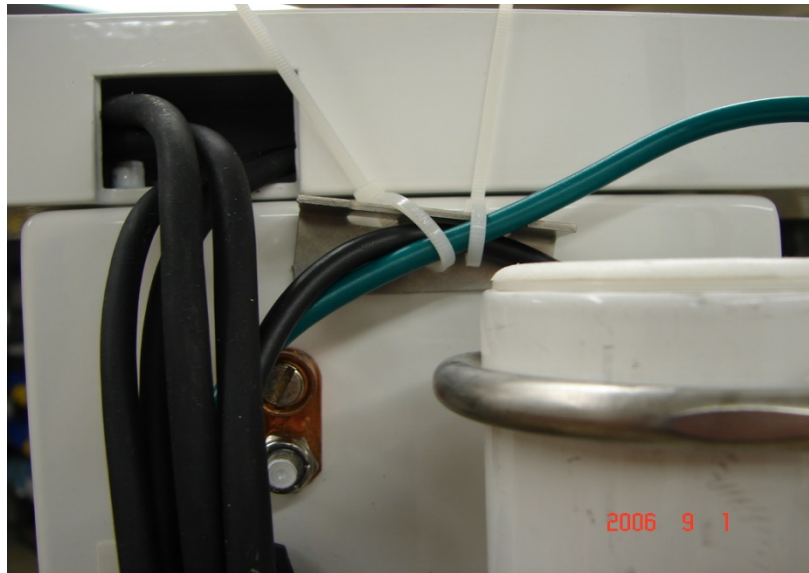

FIGURE 2-29. Loosely Wire Tie Antenna Cable
2. Remove the cap off of the BNC bulkhead connector located on the lower left hand corner of the enclosure back. Attach the antenna cable to the BNC connector. Gently bring the cable up alongside the pole and loosely wire tie it to the wire tie block at the top of the enclosure. Drape the antenna cable between the pole and the enclosure. See FIGURE 2-29 and FIGURE 2-30.